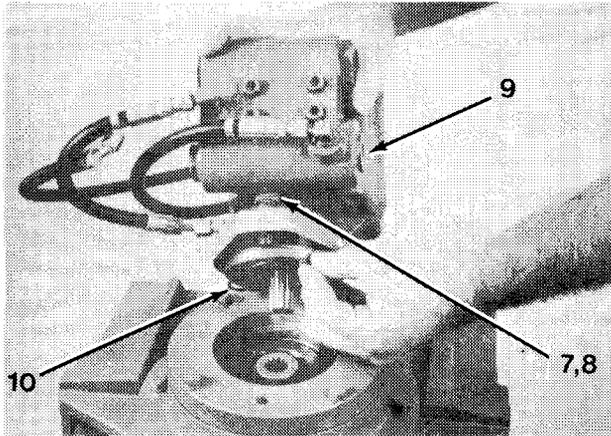

Figure 16-3
6. Remove two cap screws (7), lockwashers (8), motor (9) and O-ring (10, Figure 16-3).